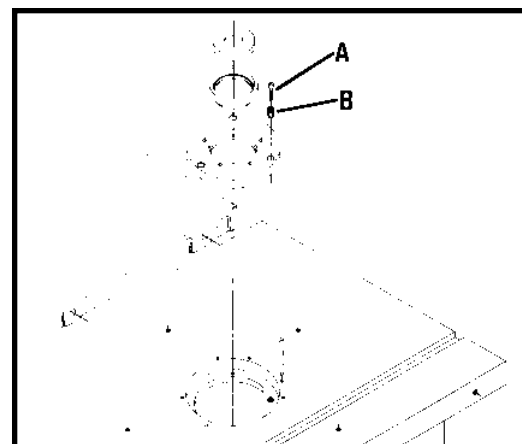

Fig. 13
Three table inserts are provided for various size cutters, (Fig. 13). The large insert is adjustable. To set it flush with the table:
1. Remove the three slotted head screws (A) Fig. 13.
2. Use a screwdriver to turn the three adjusting screws (B) Fig.13 until the insert is flush with the table.
3. Replace the slotted head screws (A).